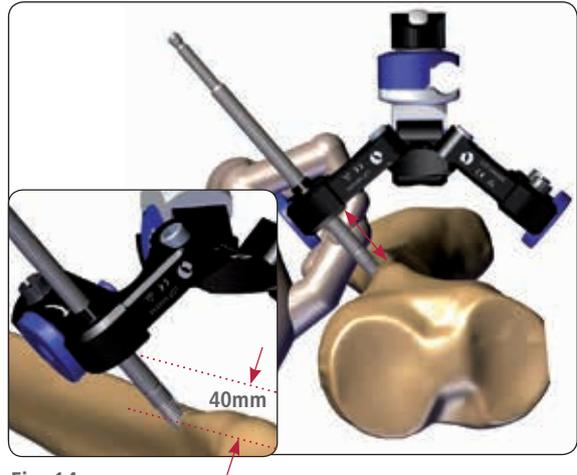

Fig. 14
Apply the Large Multiscrew Clamp for UNYCO Cancellous Screws (hereinafter "Tibia Clamp") (93566) on the first screw and tighten the metal ring on the arm clockwise (Fig. 14).
**NOTE:** Once converging screws have been inserted, the clamps can no longer slide on the screw shafts. It is therefore important to determine the final distance (of 40mm or approximately 2 fingers breadth) of the clamp from the skin before inserting the second screw. Ideally, the clamp should be positioned at a distance of 40mm from the skin (Fig. 14).